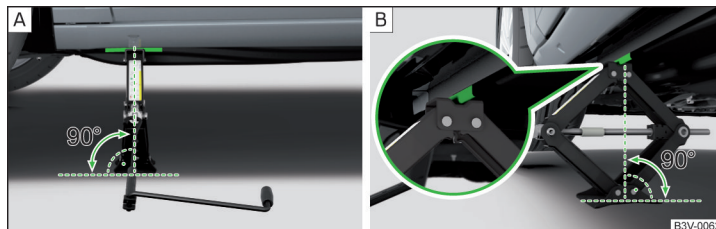

Fig. 247 Principle sketch: Attach lifting jack
- › Support the base plate of the jack with its full area resting on level ground and ensure that the jack is located in a vertical position at the jacking point » Fig. 247 - **A**.
- › Position the lifting jack below the jacking point with the crank and move it up until its claw encloses the web » Fig. 247 - **B**.